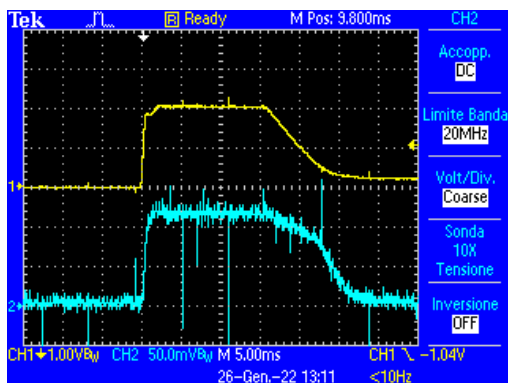

Fig. 1a
- Check that the resulting values are correct respect values in the table below and then check the wave-length by comparing it to the typical wave-lengths shown in figures 1a (60 kV) and 1b (100 kV).